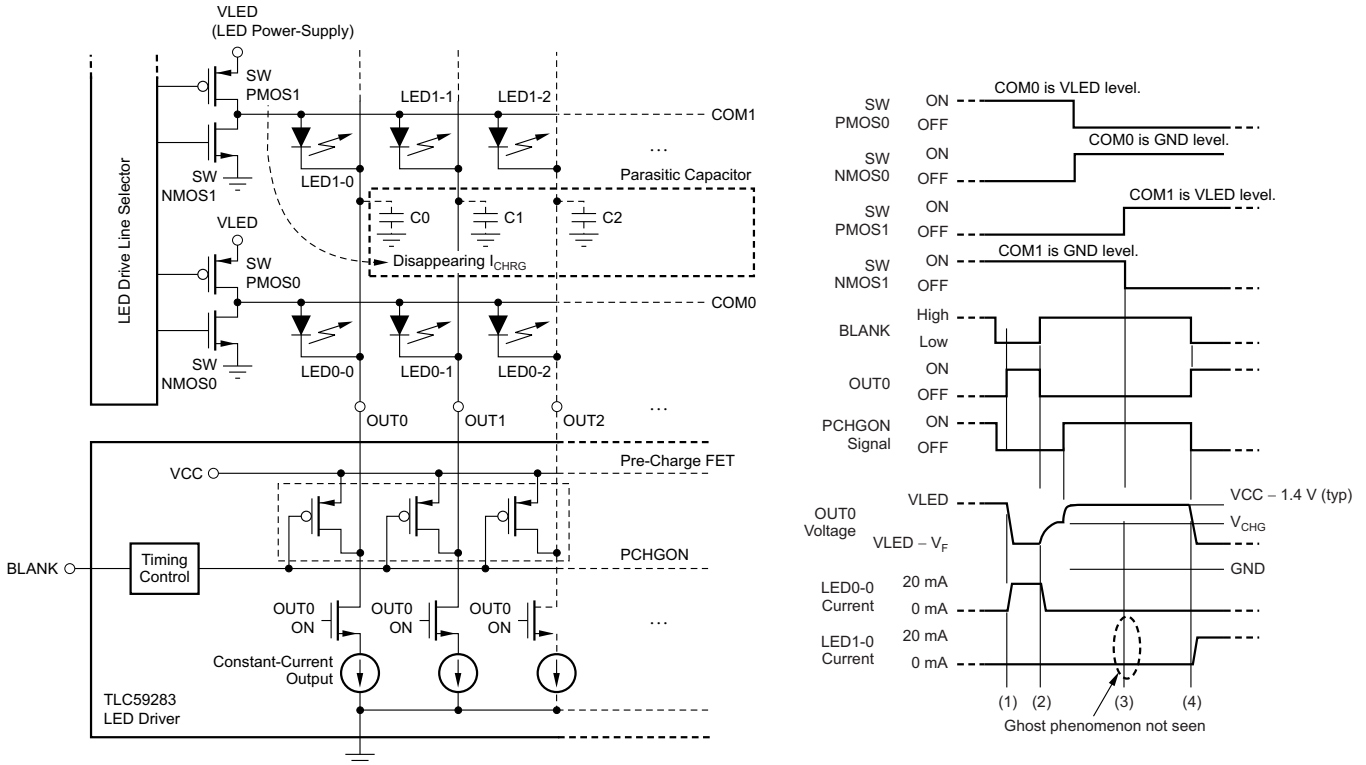

Figure 24. LED Ghost-Lighting Mechanism by Pre-Charge FET
The TLC59283 has an internal pre-charge FET to prevent ghosting, as shown in Figure 24. When a small delay after PWM control for a single common line completes, the FET pulls  $OUT_n$  up to  $V_{CC}$ . The charge current does not flow to  $C_0$  through LED1-0 when SWMOS1 is turned on and the ghosting is eliminated at (3). However, depending on the LED anode voltage, the number of LEDs in series, the LED forward voltage, and the TLC59283  $V_{CC}$  supply voltage, there may not be a great enough ghost-canceling effect.